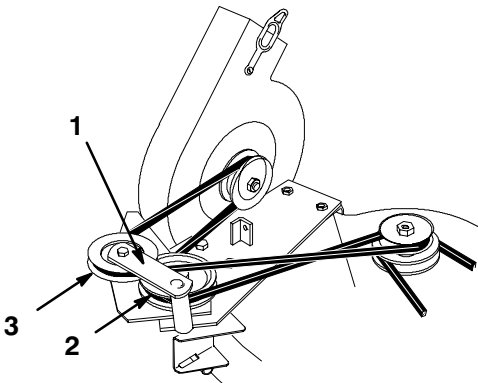

Figure 1
1. Open the latch and swing the blower out away from the mower, remove the blower belt from the mower spindle pulley (Fig. 1).